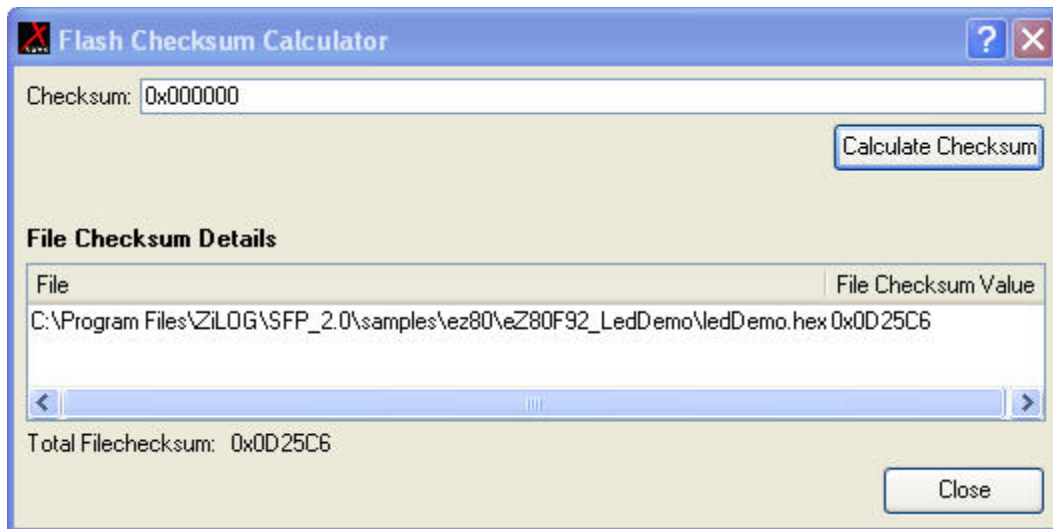
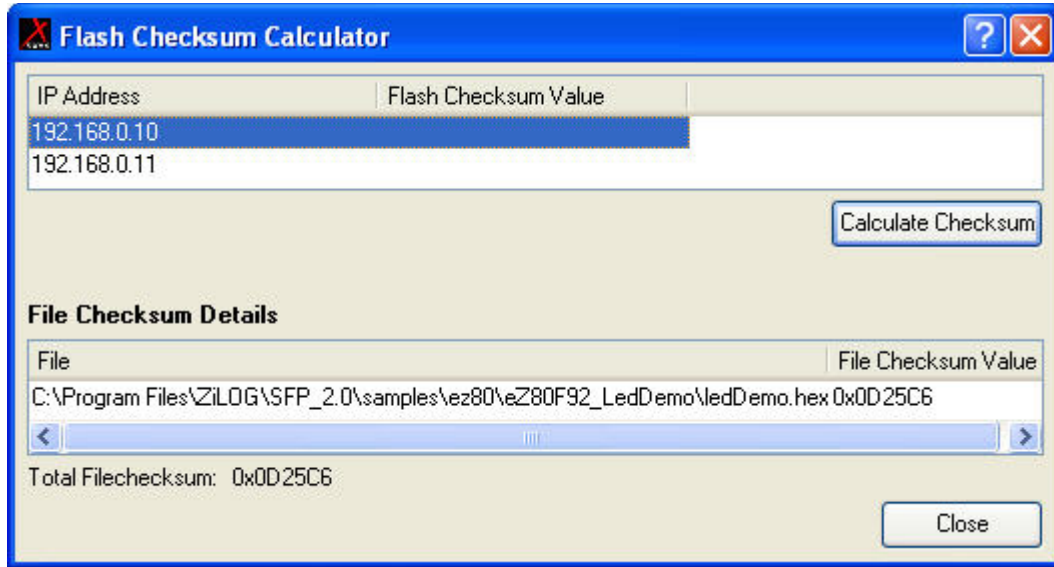

Figure 47. Flash Checksum Calculator for Serial Type of Communication
Figure 48. Flash Checksum Calculator for Ethernet/USB Type of Communication
2. Based on the Communication type selected in the **Communication** window under the **Project** tab. See Communications Window on page 22, one of the **Flash Checksum Calculator** window (Figure 47 or Figure 48) is displayed. If serial type of communication is selected, Figure 47 is displayed and if USB or Ethernet type of communication is selected, Figure 48 is displayed.
3. The **File Checksum Details** pane of the **Flash Checksum Calculator** window (Figure 47 or Figure 48), displays all the hex files included in the project for programming along with their individual checksum. It also displays the total file checksum of all the files included in the project.